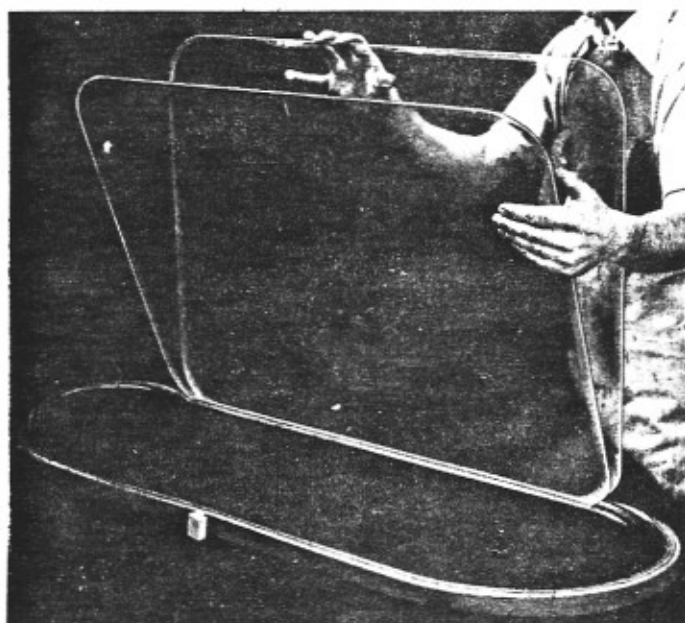

Figure 136
10. Stand the two lights of glass on edge with cleaned faces toward each other and with spot marked for breather location on upper edge. (See Figure 136)